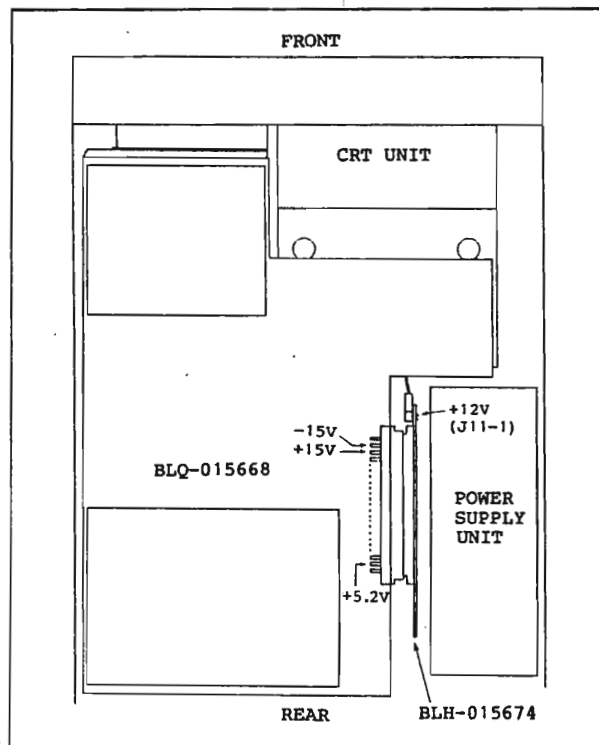

Figure 6-1 Voltage Check Points
- ② Check that the voltage check points (+15V, -15V, +5.2V and +12V) shown in Figure 6-1 are within the following tolerances:
- ③ Make the adjustments described in 5.4.1 "Frequency Span".
- ④ Make the adjustments described in 5.4.5 "LOG/LINEAR Amplifier Linearity".